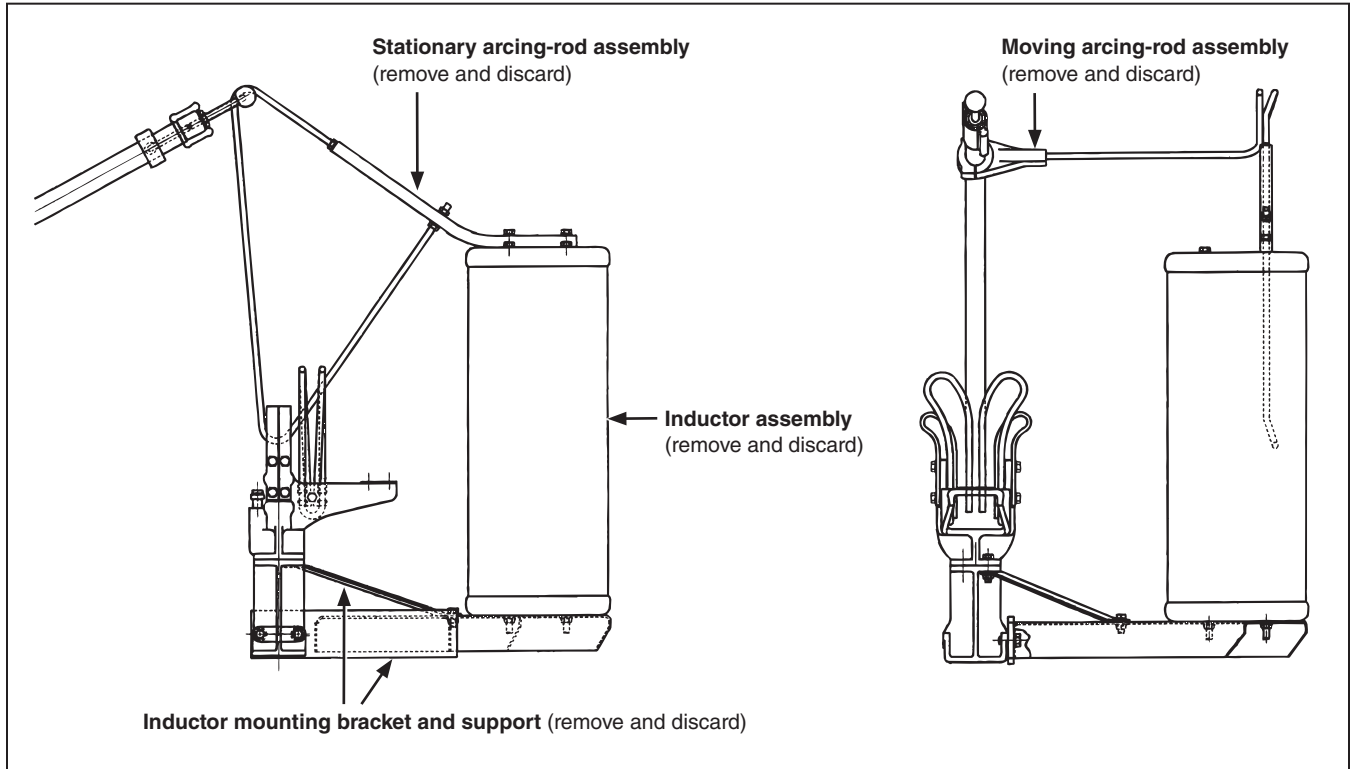

Figure 7. Removal of existing upgraded earlier-production 10-millihenry pre-insertion inductors on 115-kV and 138-kV vertical-break style circuit-switchers.
*For upgraded earlier-production 10-millihenry pre-insertion inductors (inductors mounted vertically) on 115-kV and 138-kV vertical-break style circuit-switchers:* Refer to Figure 7 on page 9.